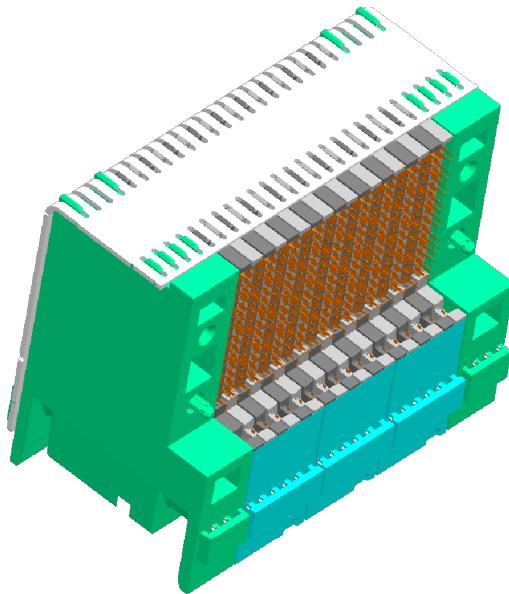

Figure 17: Typical RAM Connector Configuration
5.3.1 RAM connector configurations are determined by the customers' system application. Amphenol TCS recommends that for the optimal connector configuration design the connectors be grouped in increments of 6 wafers or one signal module (8 wafer modules are available for the 4 pair connector). This matches 6 column groupings of the backplane modules. Guide modules and power modules are typically placed on the ends of the connector to protect the RAM connector from handling damage. See Figure 17 for the typical connector configuration.